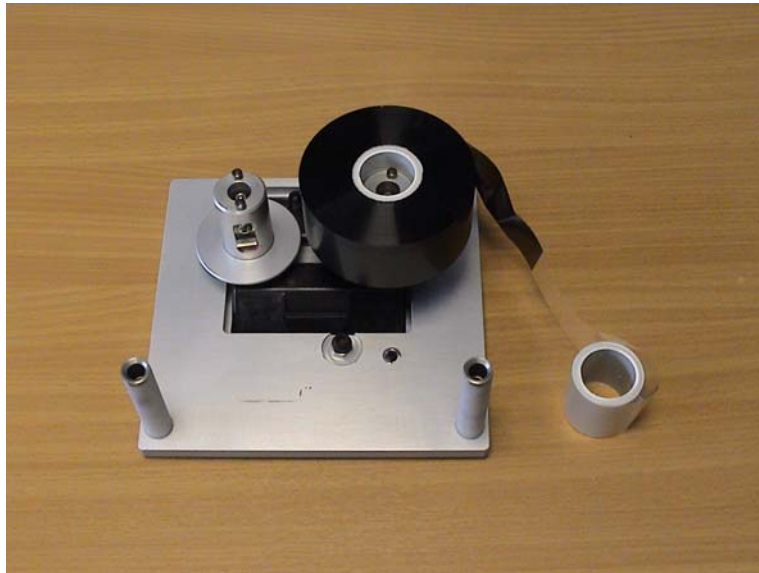

Figure 5-12: Ribbon Spool Installation
- 6 Slide the full spool onto the holder that has a black disc. The roll should be located such that the ribbon unwinds in the direction as shown in Figure 5-12.